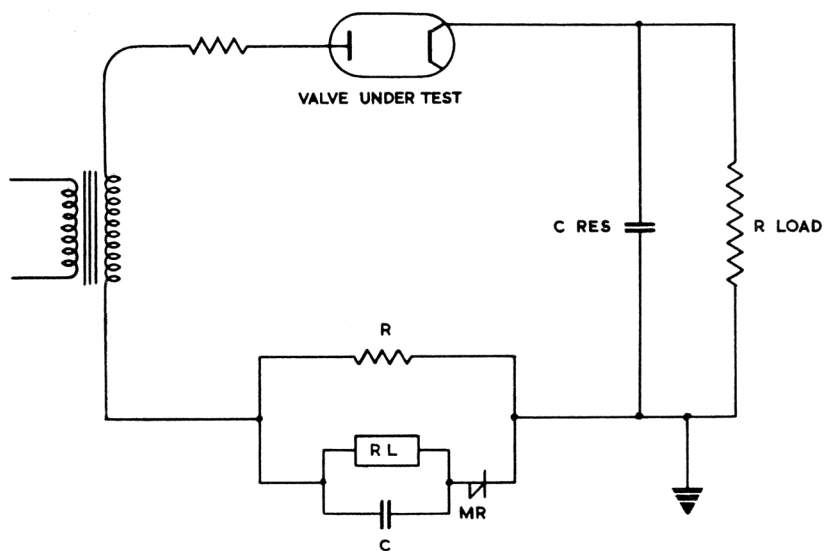

FIG. 1
3. The rectifier test equipment shall incorporate a sensitive trip circuit as indicated on Page 8, Fig. 1, and a flash-over is defined as a reverse current flow which is sufficient to operate this circuit. The component values used in this circuit are as follows:-